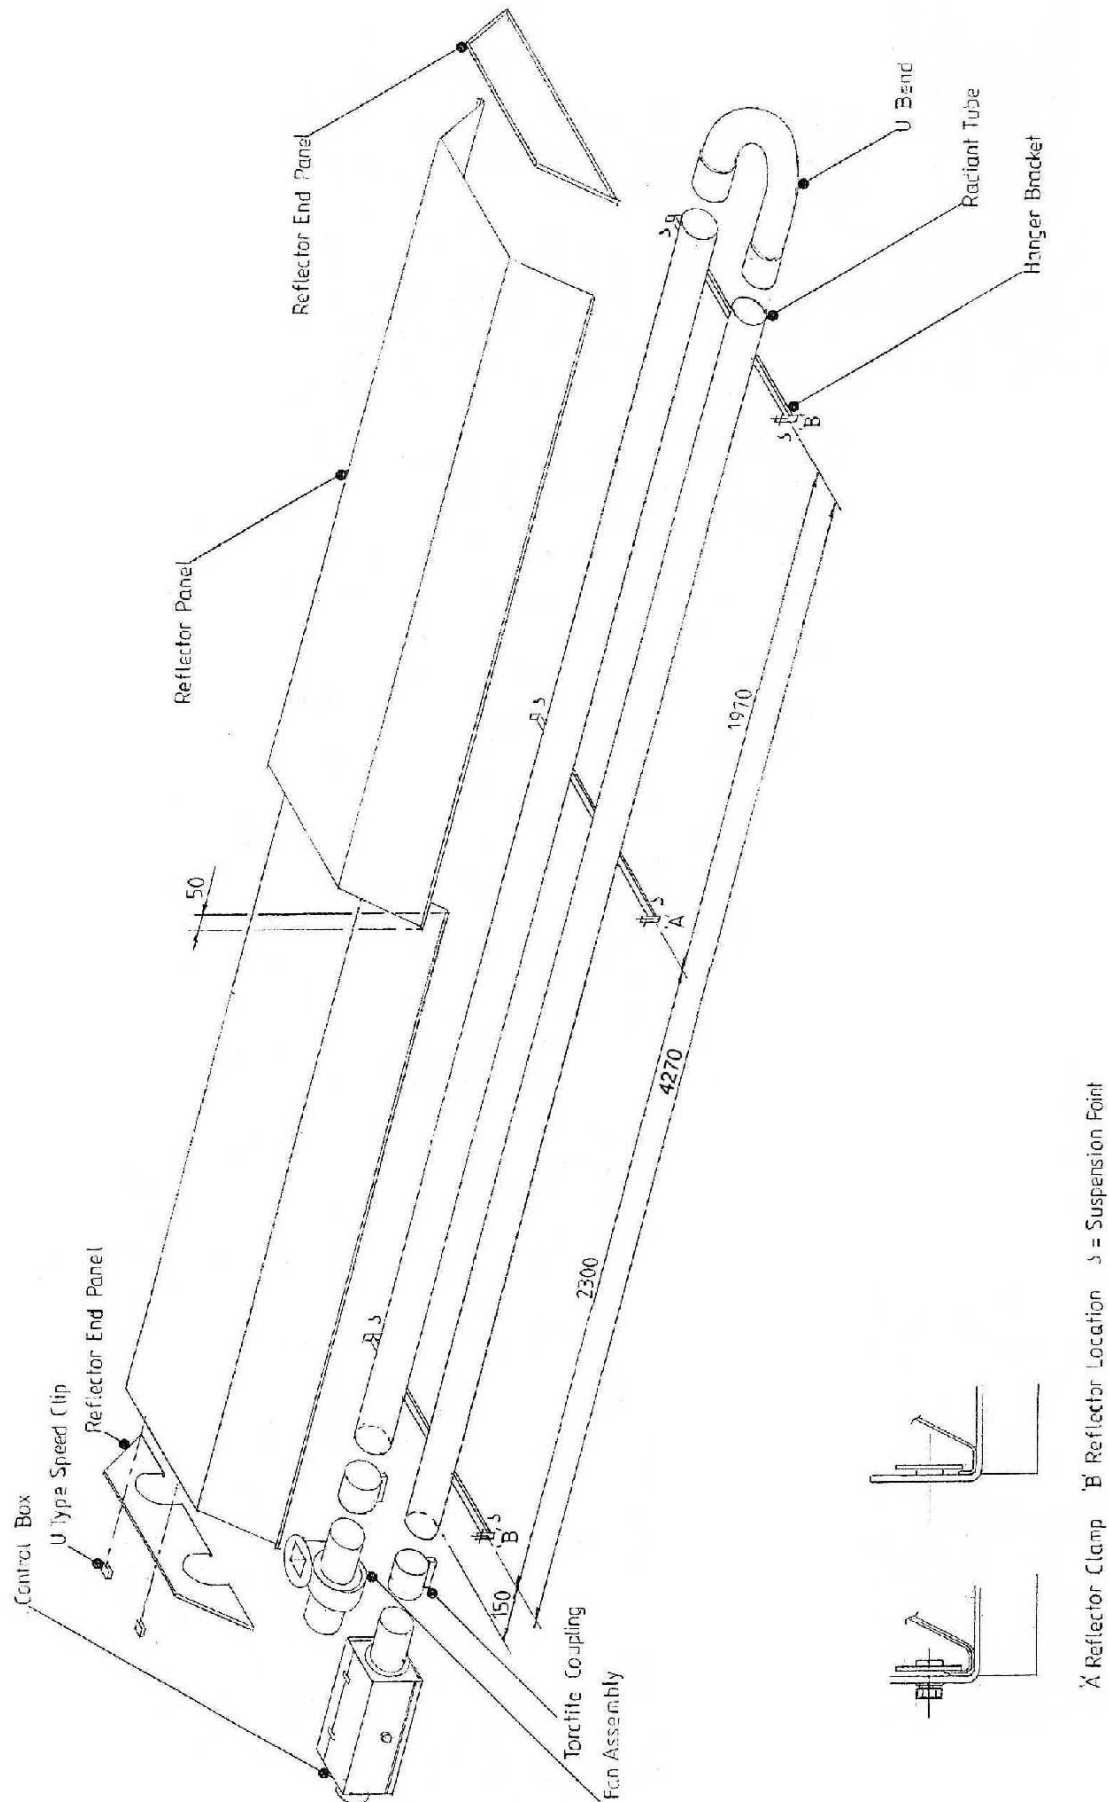

Fig. 16
- 4.3.2 Assemble the three Hanger Brackets to the Radiant Tubes using two U bolts per bracket (from fastenings pack) and position along the Radiant Tubes as shown in Fig 16. Tighten the nuts sufficiently to retain the Hanger Brackets. Do not over tighten.
- 4.3.5 Place the two Reflector Panels onto the Hanger Brackets and position to provide a 50mm overlap at the centre, arranged equally about the centre Hanger Bracket. Clamp the two Reflector Panels to the centre Hanger Bracket using two retainers and M6 setscrews and washers (fastening pack). Screw the remaining (4) retainers to the two outer Hanger Brackets to provide location for the Reflector Panel ends as shown in Fig. 16.
- 4.3.6 Position the Reflector End Panel (notched) over the Radiant Tubes and into the end of the Reflector Panel with the End Panel flange flush with the end of the Reflector. Secure the Reflector End Panel to the Reflector Panel by use of 6 - U type speed clips provided (fastenings pack); 2 clips per facet of Reflector Panel, as shown in Fig. 16.
- 4.3.7 The appliance should now be raised and suspended from previously fixed chains or drop rods as detailed in section 3.1, at suspension points indicated in Fig. 16. Rope or webbing slings should be used when lifting from above. If using a forklift to position the appliance, ensure that the appliance is balanced on the forks prior to lifting.